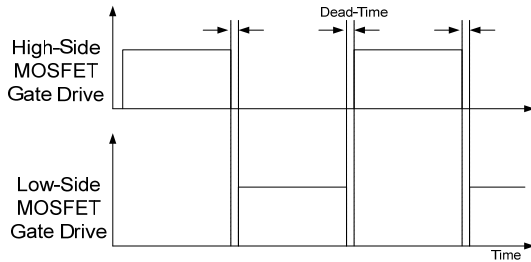

Figure 18. MOSFET Gate Drive Signals
1. Basic Operation: FSFR-HS series is designed to drive high-side and low-side MOSFETs complementarily with 50% duty cycle. A fixed dead time of 350 ns is introduced between consecutive transitions, as shown in Figure 18.